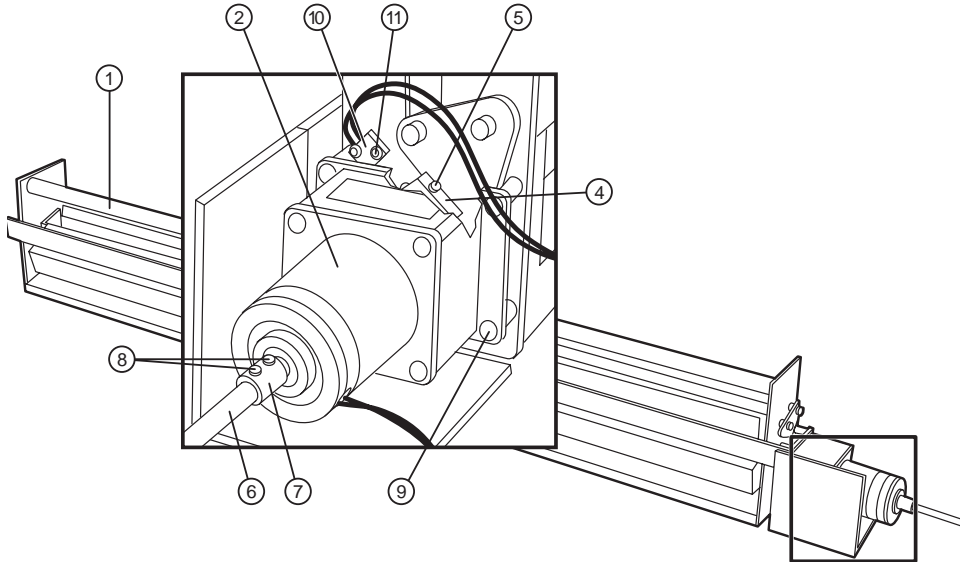

Figure 4-15 Cutter motor.
- ①—Cutter assembly. ②—Cutter motor.
④—Motor cam. ⑤—Two 5/64" allen screws. ⑥—Shaft. ⑦—Coupler.
⑧—Two 5/64" allen screws. ⑨—Four phillips screws. ⑩—Cutter Home Sensor.
⑪—Two phillips screws.
3. Twist the shaft at the end of the motor so that the 5/64" allen screws on the coupler are visible. Refer to Figure 4-15.
4. Loosen the two (2) allen screws on the coupler and remove the motor shaft. Refer to Figure 4-15.
5. Remove the four (4) phillips screws securing the cutter motor to the stand-offs. Refer to Figure 4-15.